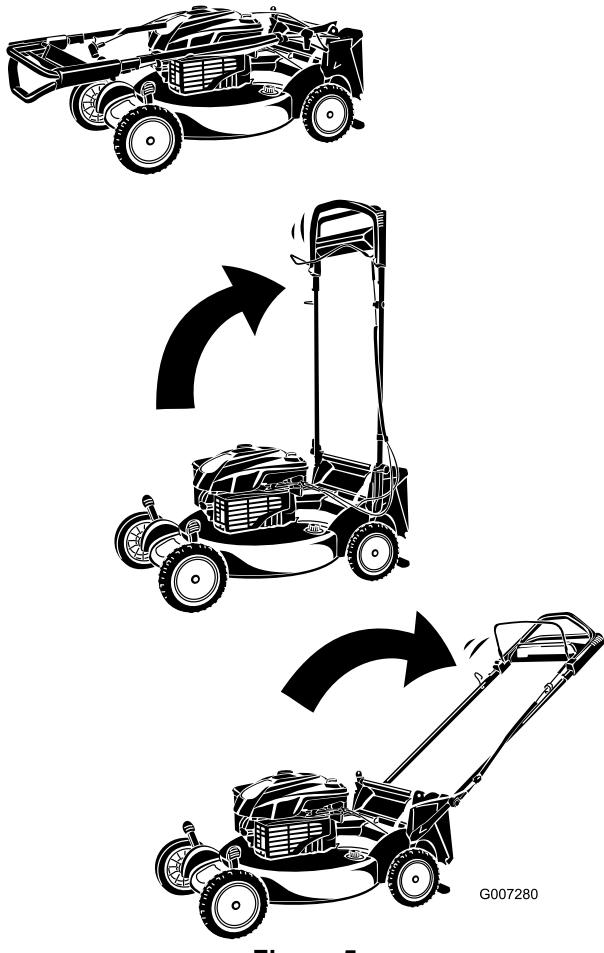

**Figure 4**
3. Attach the handle ends to the mower housing with 2 washers and 2 handle bolts (Figure 4), **but do not tighten the handle bolts**.